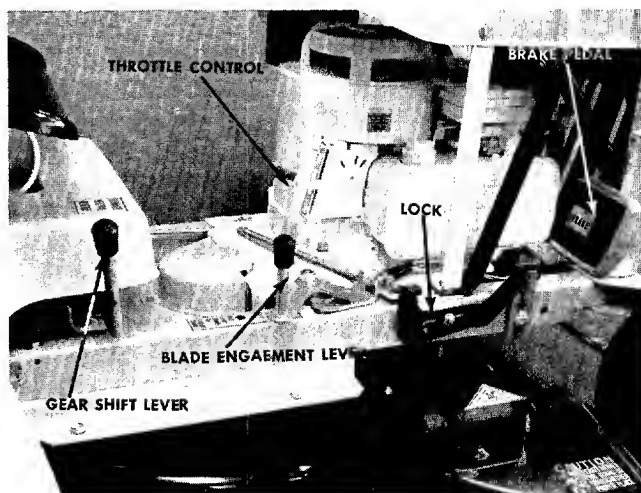

FIGURE 7. RIGHT SIDE OF MOWER
- A. Throttle Control actuates the butterfly in the carburetor and may be set at CHOKE, FAST or SLOW. See figure 7.
- D. The Blade Engagement Lever engages and disengages the blade. Pull the Blade Engagement Lever back to stop the blade. Move the Blade Engagement Lever forward to engage the blade. See figure 7.
- E. The Gear Shift Lever is used to select either forward or reverse. See figure 7.
- G. The Brake Pedal is operated with your right foot and is used to stop the forward or reverse motion of the rider. To engage the brake, depress the Brake Pedal with your right foot. To set the parking brake, depress the brake and lift the lock. To release, depress the brake pedal. See figure 7.